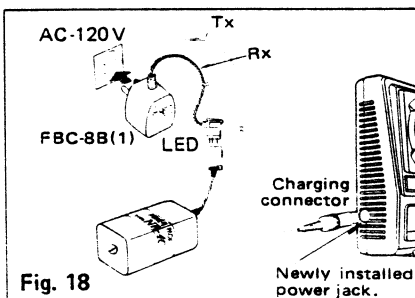

Fig. 18
- (4) Connect the 3PC red male connector soldered to the power switch to the 3PC red female connector of the NT-8J, check the positions of the left and right sticks, level meter, power switch, PC wiring board, and the power jack just installed, then install the transmitter case with the screws.
- (5) Charging and use
- (a) Connect the power plug of the FBC-8B (1) battery charger to the transmitter charging connector. Connect the 3PC red male connector to the receiver and servo NR-4C nicad battery. Plug the battery charger into a 120 VAC outlet as shown in Fig. 18.
(1) First, connect to TX Nicd and red lamp goes on.
(2) Then, connect to RX Nicd after connecting, L.E.D. changes color from red to greenish red (orange) which indicates that both TX and RX Nicds are being charged.
(3) In case of separate charging, L.E.D. color will be: